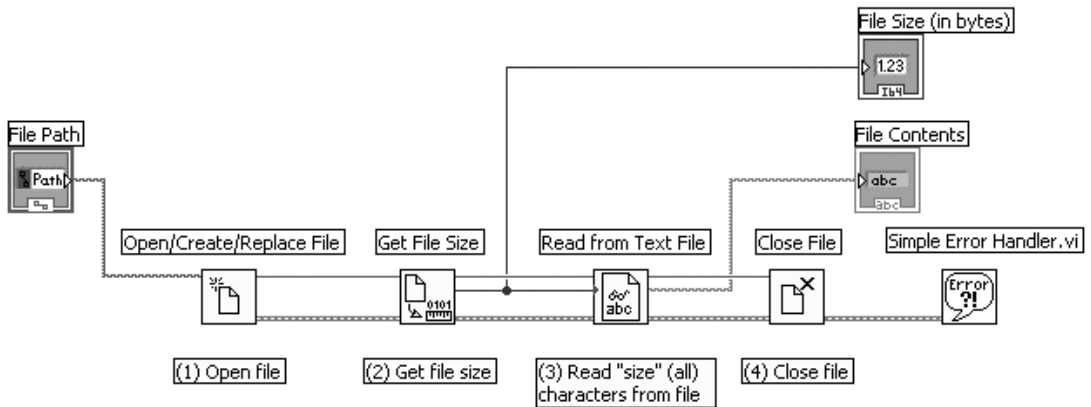

Figure 14.19
2. Build the block diagram shown in Figure 14.19.